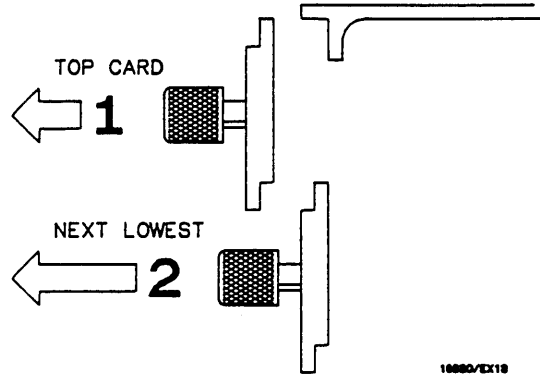

Figure 2-10. Endplate Overlap
- c. Starting from the top, begin pulling card(s) and filler panel(s) out half way. See figure 2-10.